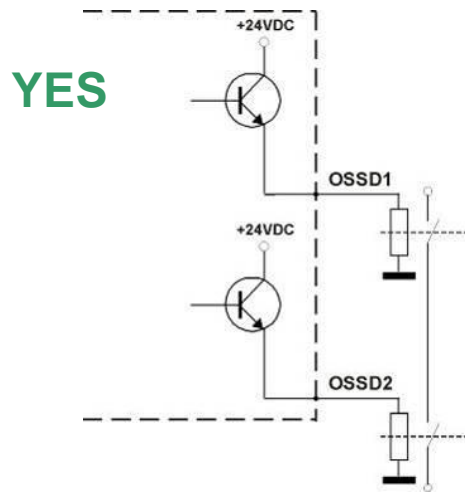

Fig. 16
- The OSSD1 and OSSD2 safety contacts cannot be connected in series or in parallel, but can be used separately (Fig.16).